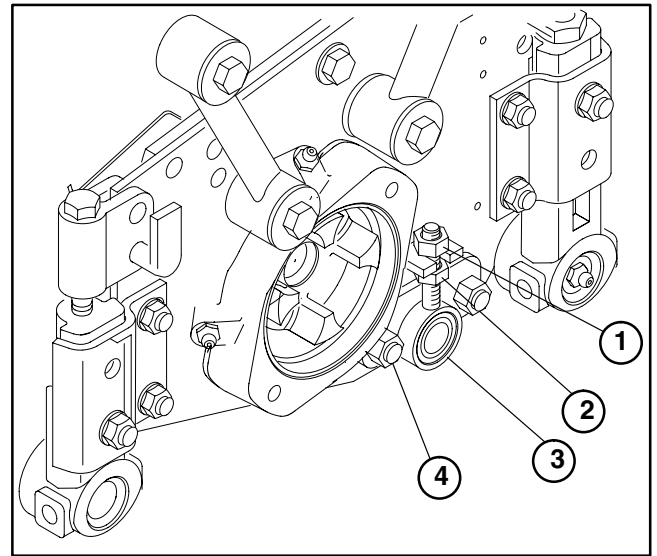

Figure 9
3. Loosen adjustment nuts on the adjusting housing (Fig. 9).
4. Remove both carriage bolts and nuts from the adjusting housing (Fig. 9).
6. Secure adjusting housing to the cutting unit with both carriage bolts and nuts (Fig. 9).
7. Tighten both adjusting nuts on the adjusting housing (Fig. 9).